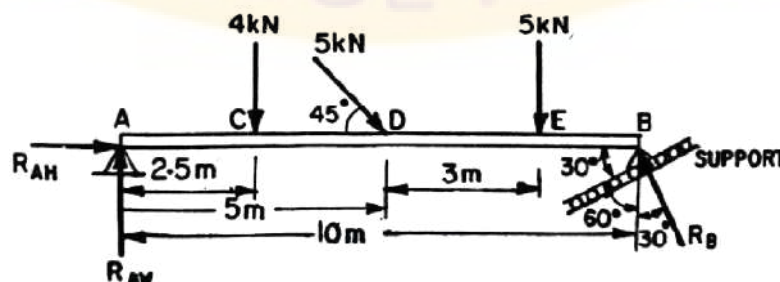

Figure 6
- (b) A beam AB 10m long is hinged at A and supported on rollers over a smooth surface inclined at 30° to the horizontal at B. The beam is loaded as shown in Figure 6. Determine the reactions at A and B. (7 Marks)